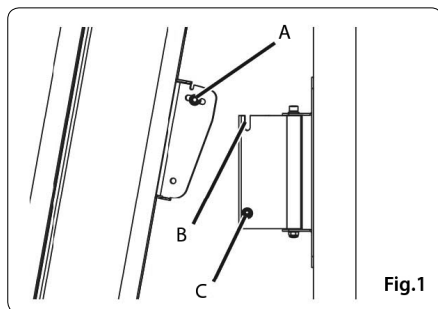

Fig.1
1. Prepare the bracket by separating the two parts of the bracket by removing bolt "C" as shown on Fig.1.